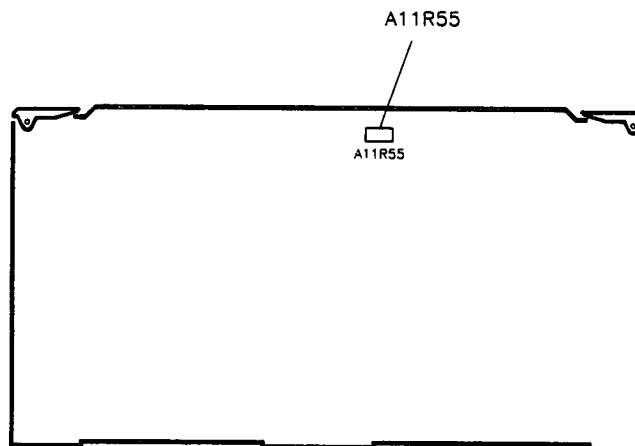

Figure 3-37. FM Gain Adjustment Location
5. Adjust A11R55 (see figure 3-37) for a minimum amplitude signal on the spectrum analyzer.